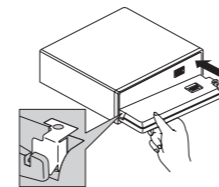

Fig. 13
2. Replace the front panel to the unit. (Fig. 13)